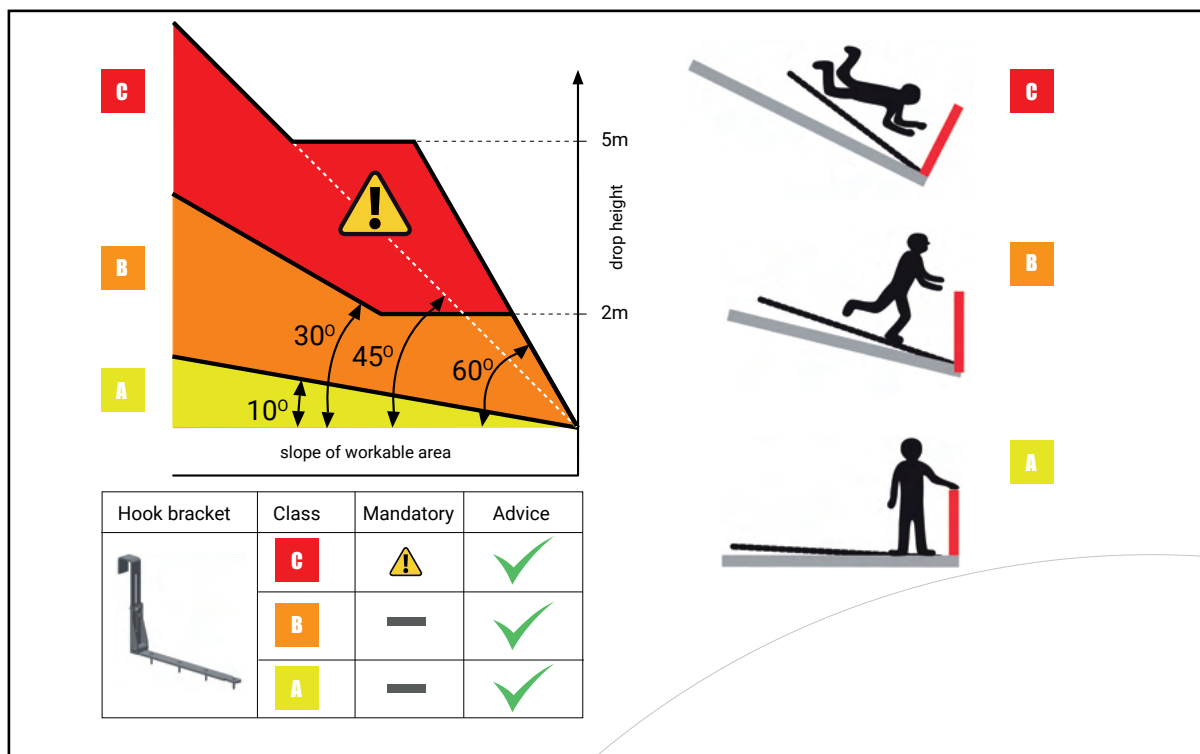

Figure 1
- In situations like Class C (see drawing page 10), the hook bracket is mandatory. See Figure 1 on page 5 for more information.
**Optional for classes A + B: Mandatory for roofs with a slope of class C (see figure 1 on page 5):** Hook the bracket (height adjustable) halfway along the length of the fence, onto the bottom tube of the fence, and secure it to the roof boarding in the rafters using at least M8x80 mm stainless steel screws.